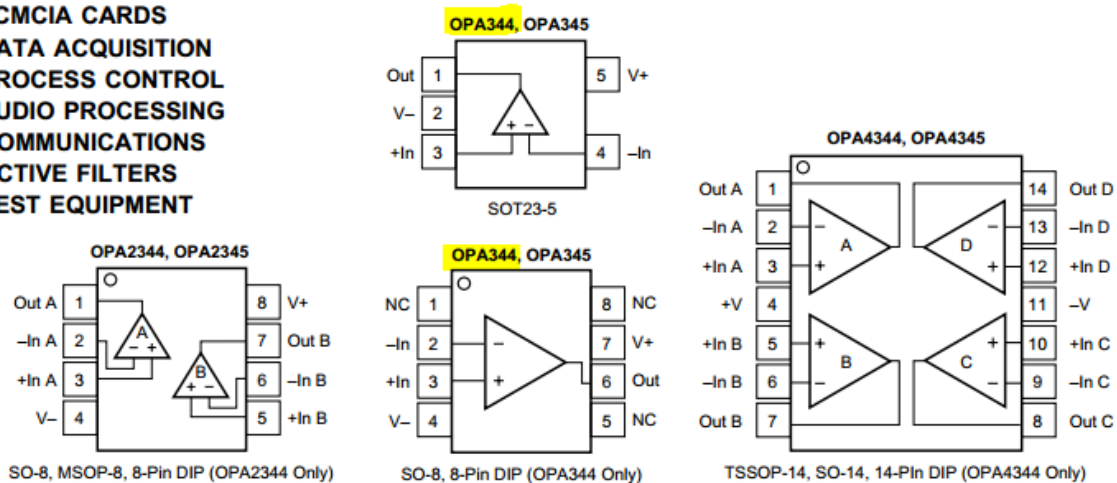

Figure 1: Datasheet excerpt showing block diagrams of the OPA344 component family.
Figure 1 indicates the OPA344 is a single, standard op amp. With the exception of IC chips, most electronic components have a standard symbol.
- b. Create 5 pins using the pin tool. Use the move tool to right-click a pin and open its properties, give the pins a name matching the datasheet diagram in Figure 1. Try to make labels visible by staggering pins or hiding the default label (properties: visible > pad) and using the Text tool to create your own.
The package is what appears on the circuit board itself, this step is crucial to the longevity and functionality of a printed circuit. Notice in Figure 1 there are two variants for the 344. Let's use size as a constraint here and pick the variant with the smallest form-factor. Note, we didn't include ("NC") in our symbol but that shouldn't matter either way as it stands for "No connection".
4. Next, click “Connect” in the bottom-right corner and it opens up a window showing the pins of the symbol and pads of the package (most likely named, P\$_). If you followed step 3a of “Make the Package” then select a combination of matching pin and pad (refer to the SOT-23 block diagram on page 1 of the datasheet or Figure 1 of this tutorial).